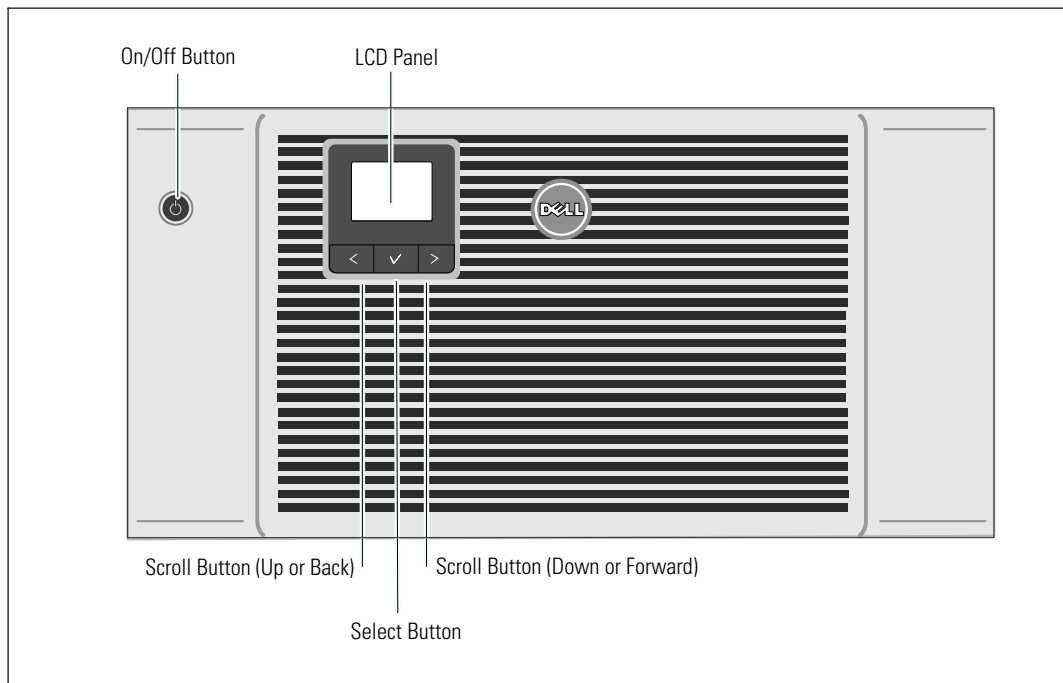

Figure 27. UPS Controls
Figure 27 shows Dell Online Rack UPS controls.
The UPS front panel LCD display illuminates (see Figure 27). The Dell startup screen changes to the UPS status summary screen. The UPS front panel display shows the Standby mode icon .
- 3 Press the  button on the UPS front panel (see Figure 27).
- 4 On the control panel, press the  button to check for active alarms or notices (see Figure 27). Resolve any active alarms before continuing. See “Troubleshooting” on page 84.